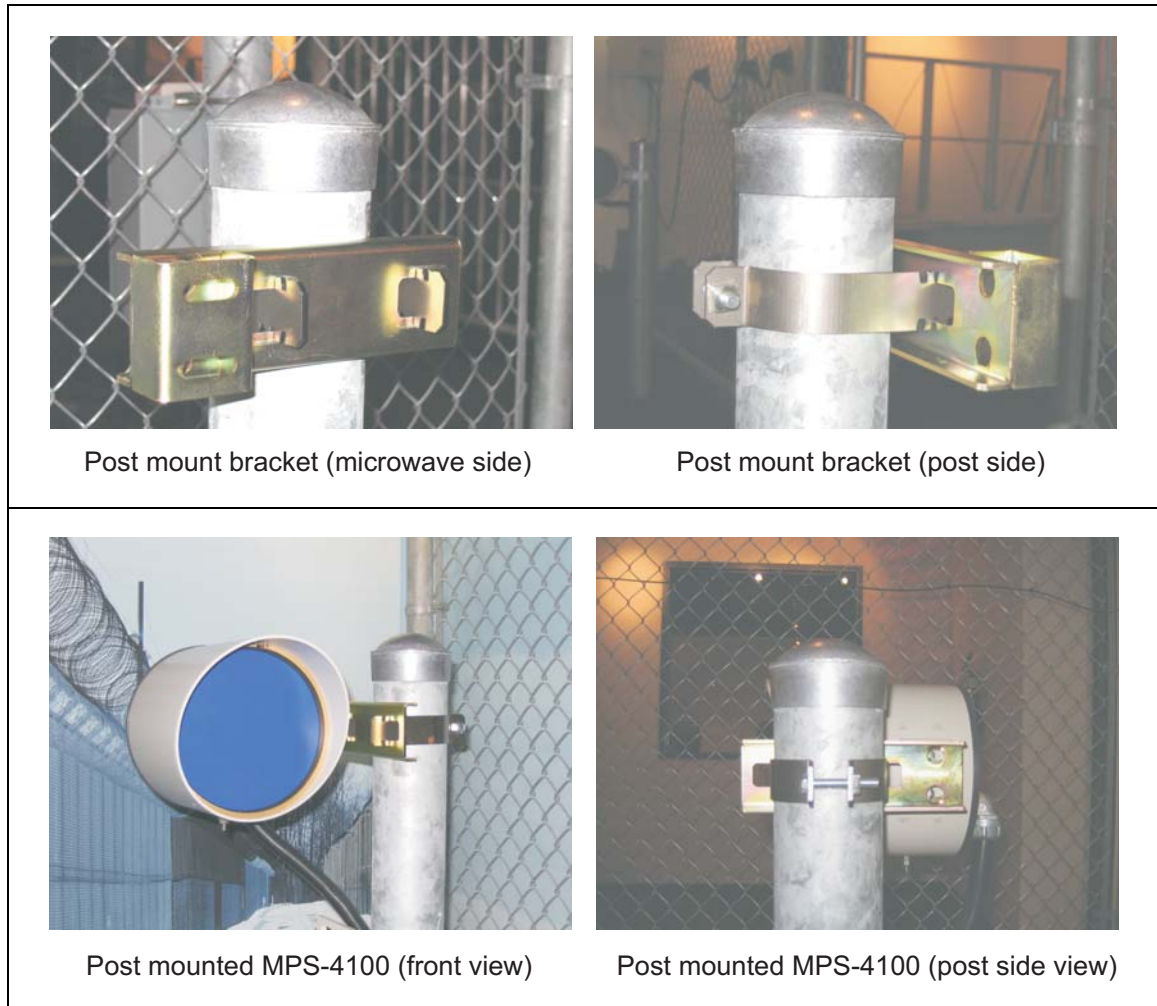
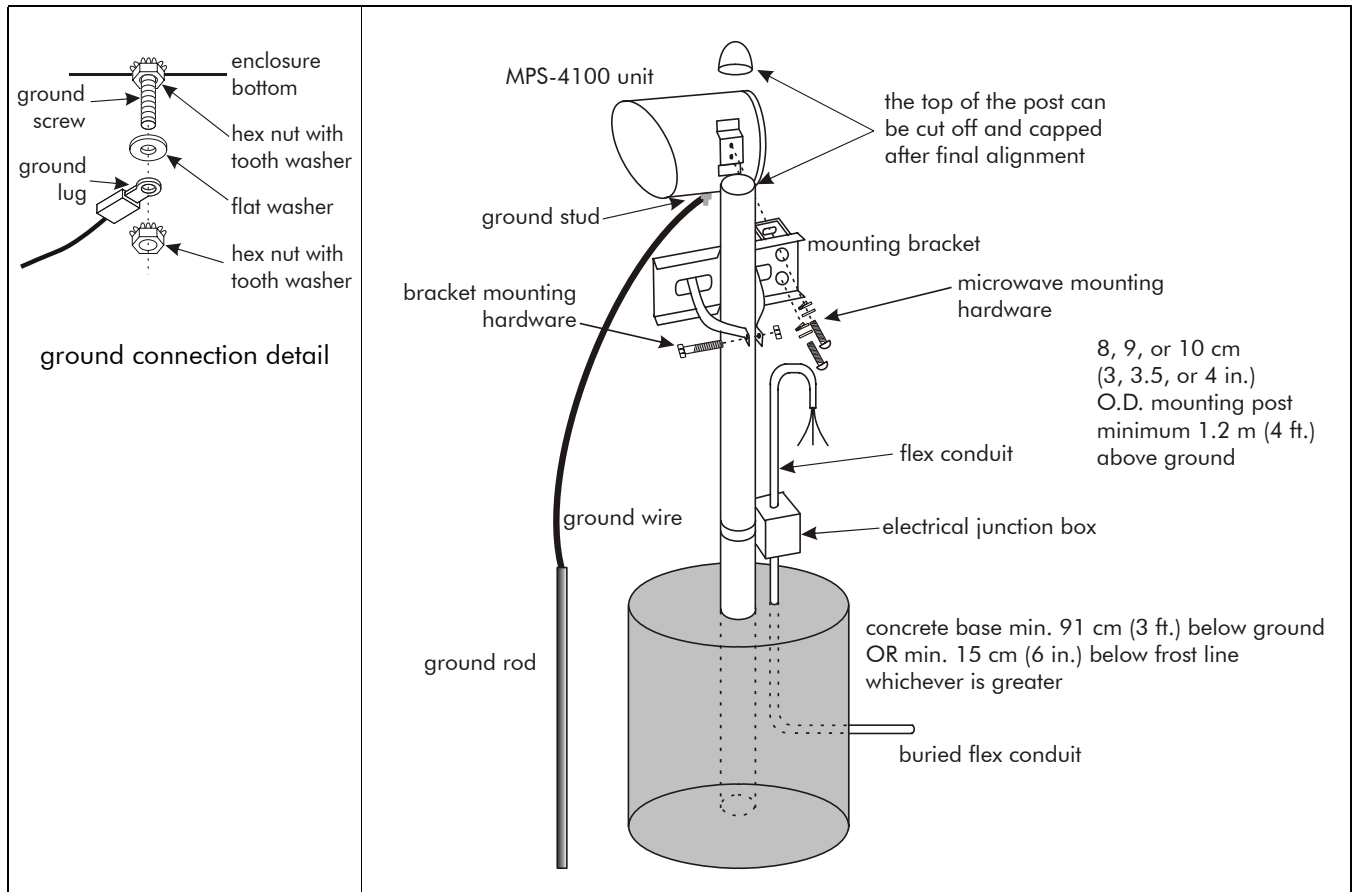

Figure 2-5 Post mounting
Figure 2-6 Mounting post/microwave unit installation
1. Attach the post mounting bracket to an 8, 9, or 10 cm (3, 3½, or 4-inch) OD post. The bracket should be 76 cm (30 in.) above ground to center, with the two slotted holes toward the rear (away from the zone). Tighten the bracket firmly into place. (See Figure 2-5 and Figure 2-6.)
2. Insert the supplied mounting hardware (machine screw, lock washer, flat washer) through the slotted holes in the post mount bracket, and screw them into the bracket on the side of the MPS-4100 (see Figure 2-6).
6. Using a suitable ground wire, connect a properly installed ground rod to the ¼ X 20 ground screw on the outside bottom of the enclosure (see Figure 2-6).